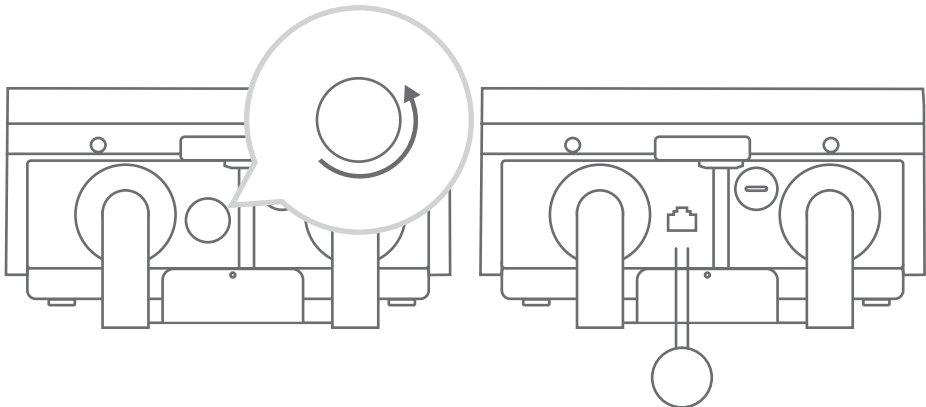

Fig. 4-18
1. Remove the protective cap of the network port on the bottom center of the charger. (See Fig. 4-18)